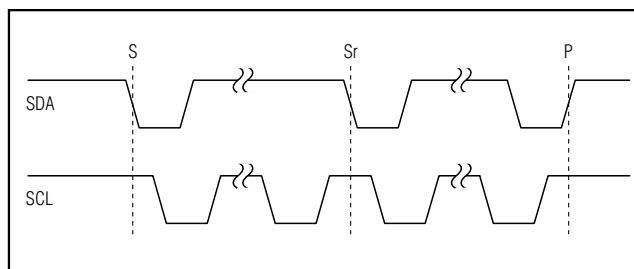

Figure 3. START and STOP Conditions
The master initiates a transmission with a START condition (S), (a high-to-low transition on SDA with SCL high). The master terminates a transmission with a STOP condition (P), (a low-to-high transition on SDA while SCL is high) (Figure 3). A START condition from the master signals the beginning of a transmission to the MAX5550. The master terminates transmission by issuing a STOP condition. The STOP condition frees the bus. If a repeated START condition (Sr) is generated instead of a STOP condition, the bus remains active.